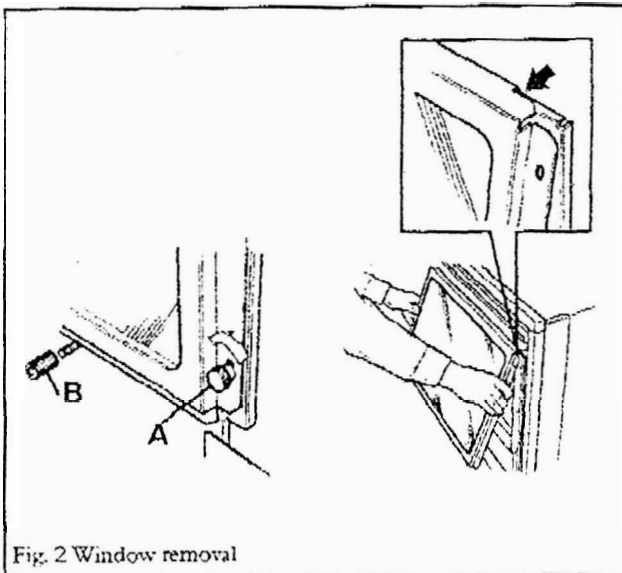

Fig. 2 Window removal
- 6.1 Remove the window & logs (see figure 2)